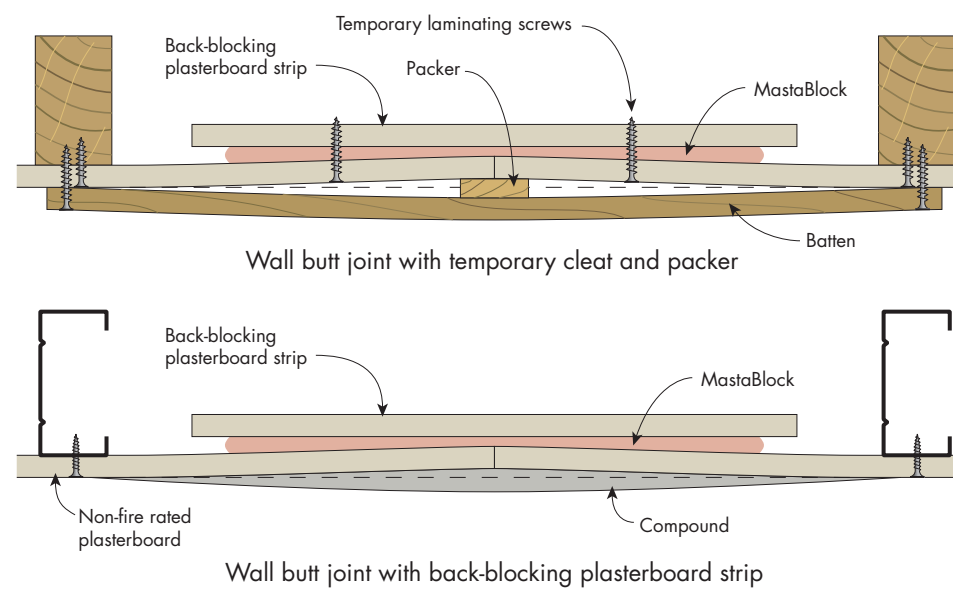

FIGURE 6 Creating a Recess at a Wall Butt Joint Using Laminating Screws – Plan View
- ▶ Wall butt joints need support for the back-blocking strips as shown in Figure 6.